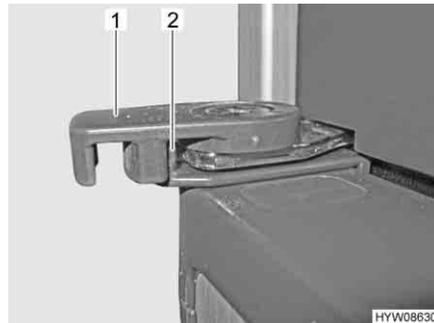

Fig. 65 Locking the refrigerator door in locked position
- Rotate lock (Fig. 65,1) towards the outside.
- Turn lock (Fig. 65,1) towards the centre of the refrigerator. Move the inner recess of the lock over the locking catch (Fig. 65,2).